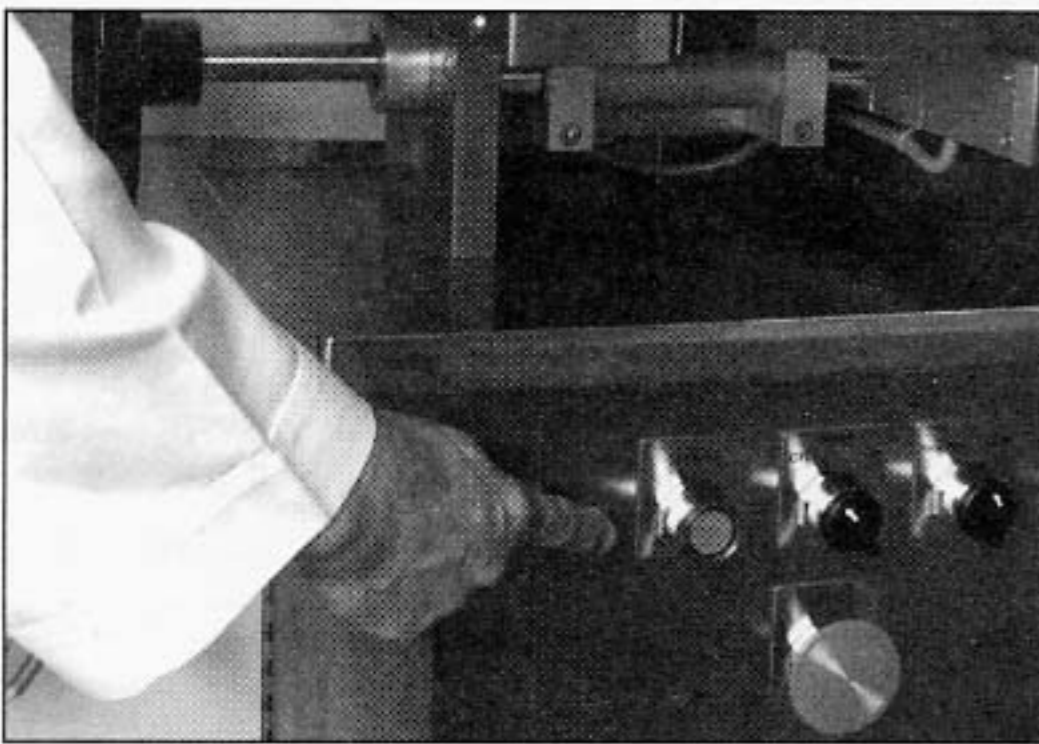

Fig. 14
3. Press and hold in either the Left or Right Dresser Button (see fig.14). This cycles the Dresser Assembly to the front. **CAUTION: DO NOT Dress Honing Wheels in this direction.**
Press and HOLD IN the Left Dresser Button (see fig. 14). This cycles the Dresser Assembly to the front (forward position).